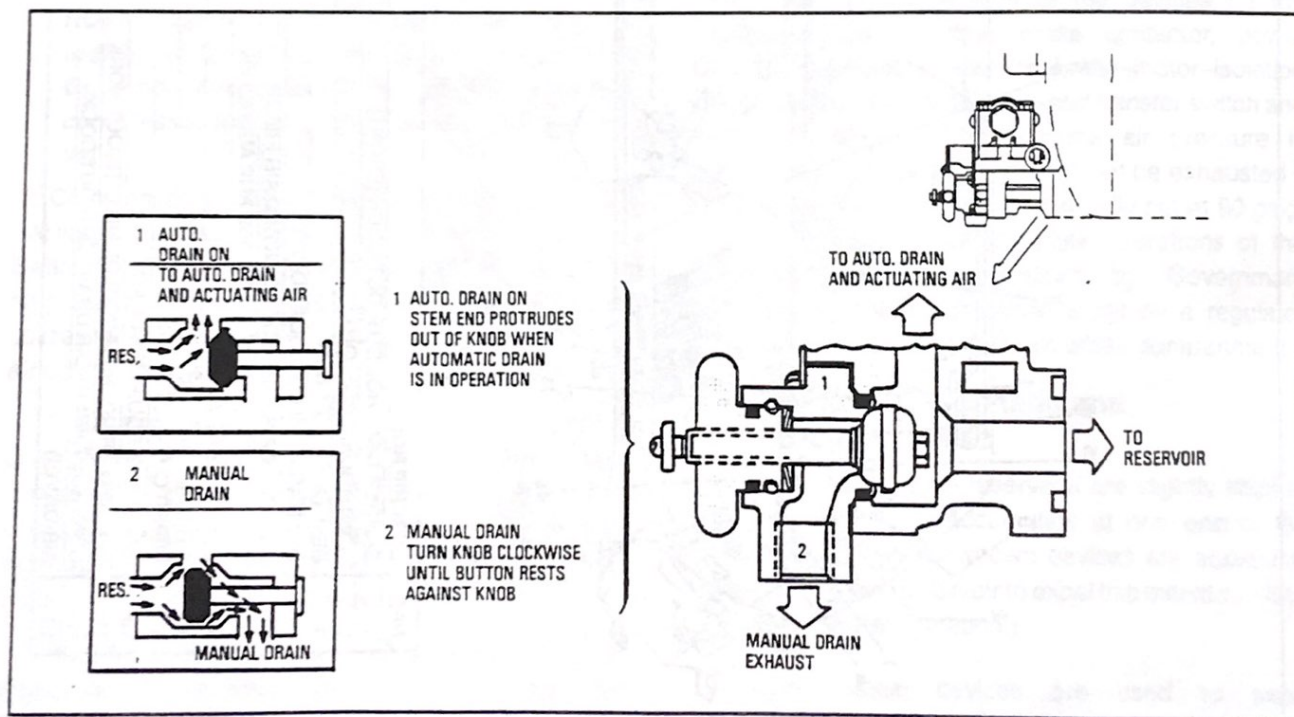

FIG. 22. OPERATION OF AUTOMATIC DRAIN VALVE. E-33702A.
The locomotive main reservoirs are slightly tilted to allow the moisture to accumulate at one end of the reservoir. Automatic blowdown devices are applied at the low end of each reservoir to expel this moisture. (See Fig. 22 for manual operation.)
2. Main Reservoir Drain Valves – Located on the end of each main reservoir (Fig. 22), part of automatic drain valves.